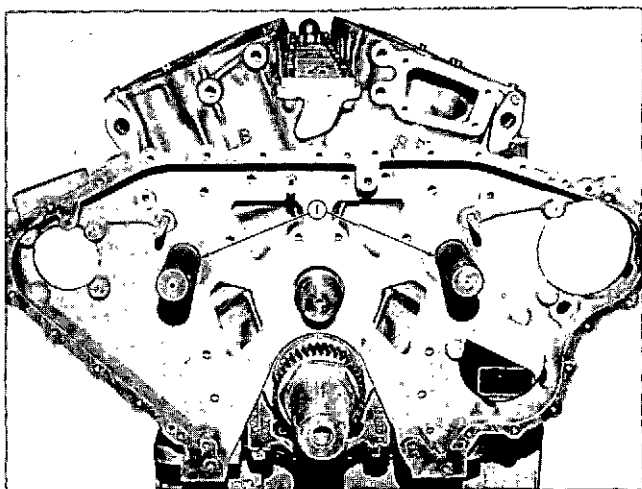

Fig. 14-1-29, V414131. Locating new gear case for doweling
2. Insert an ST-400 Locating Mandrel in each camshaft bore (1, Fig. 14-1-29).